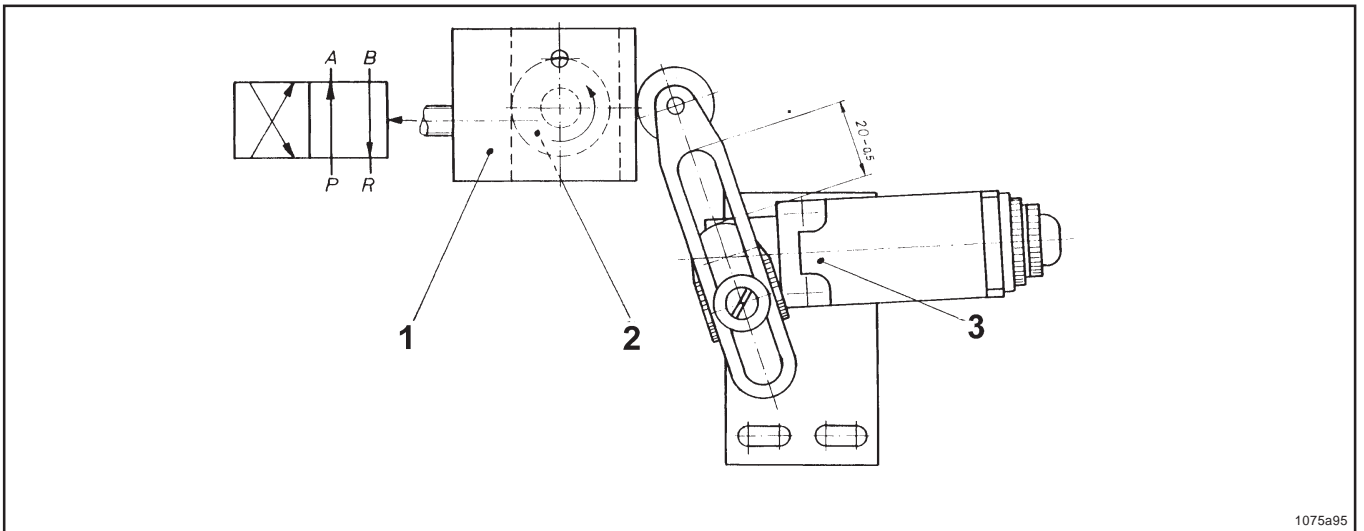

Fig. 9: piston final position 1
| <ul style="list-style-type: none"> • Cause: • The switching point of the position switch is not reached | <ul style="list-style-type: none"> • Remedy: • Check the adjusted value of $20_{-0,5}$ and re-adjust it, if necessary. • Check the adjustments shown on Fig. 9 - 11 see remedy at following fault: "The line which has been charged after the reversing process is not relieved " |
- Check adjustment shown on Fig. 9:
Piston final position 1: the outer edge of the ball bearing must be centered in the borehole of the connecting link and must be visible (in the case of old models without borehole in the connecting link, the distance between the upper outer edges of the ball bearing as shown on Fig. 9 and the connecting link must be 8^{+1} mm).